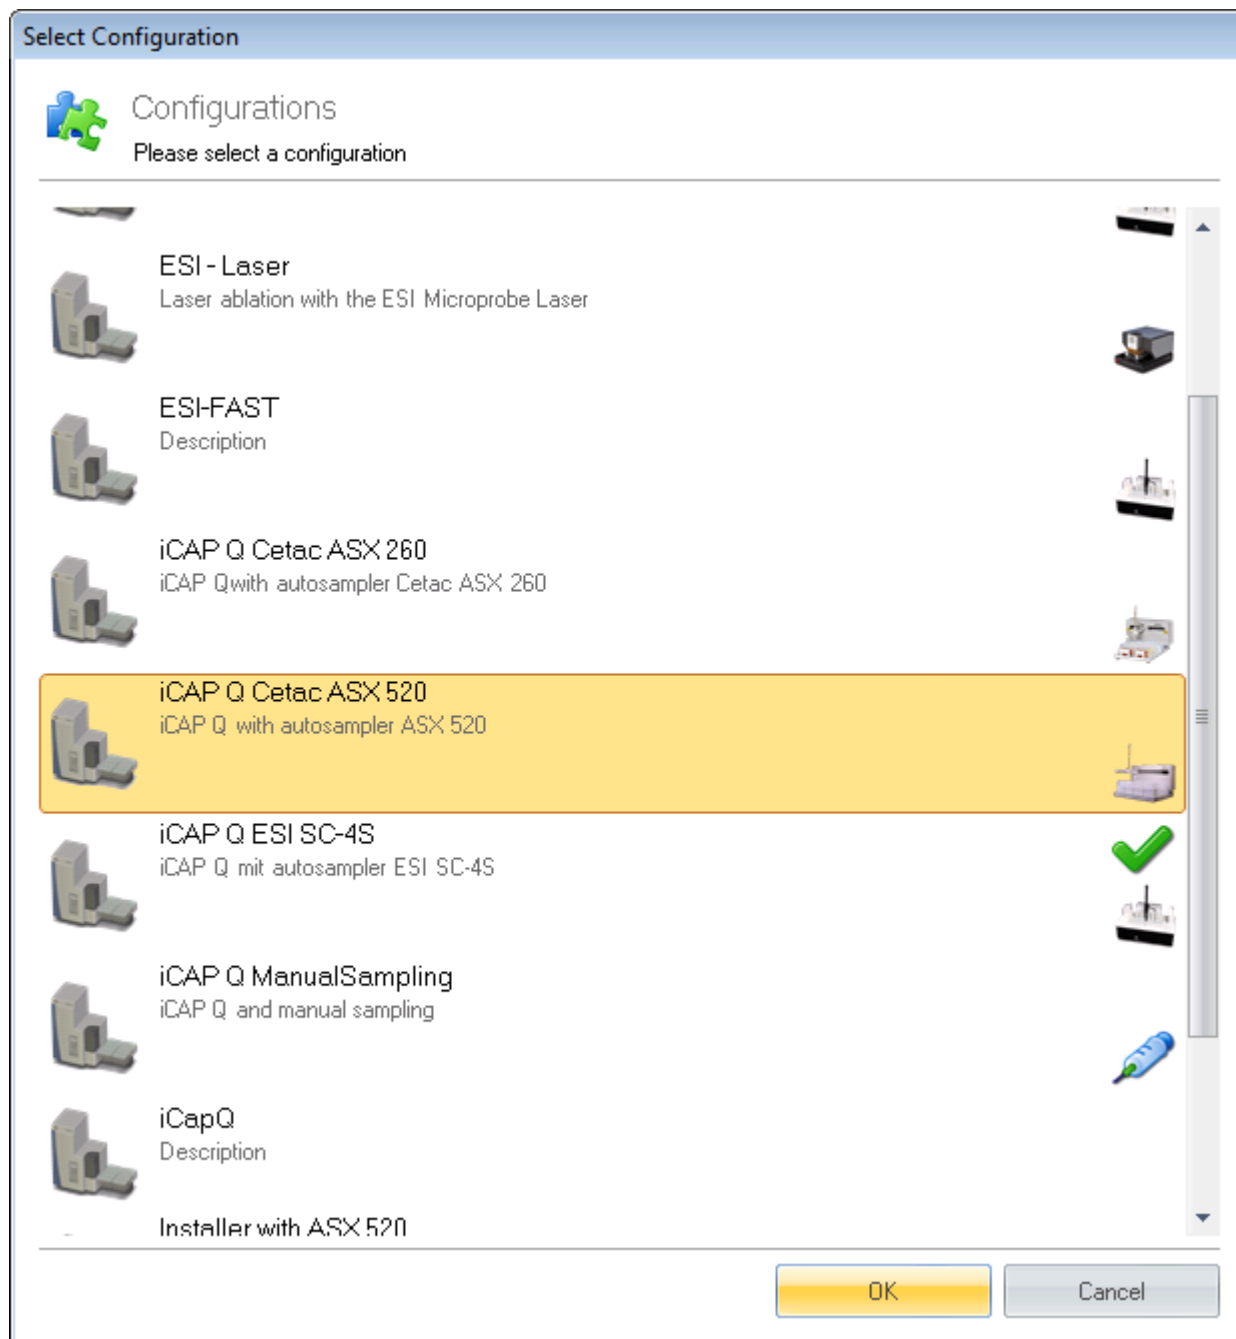

Figure 5-8. Select Configuration window
4. Select the Configuration you wish to load, see Figure 5-8.